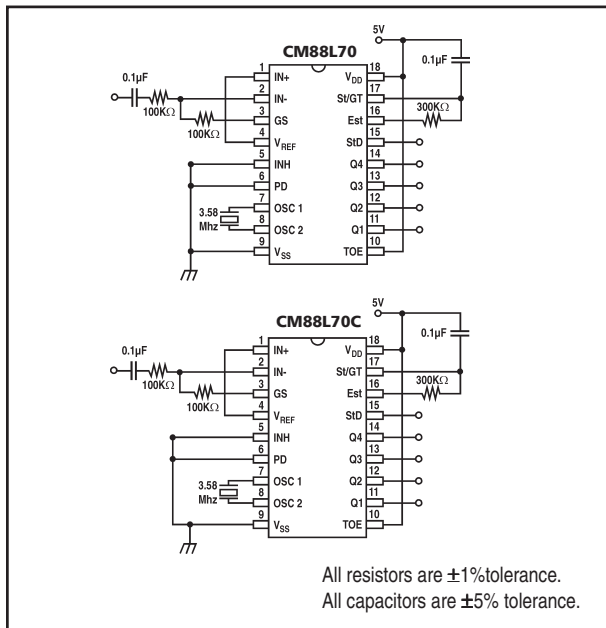

Figure 1. Single Ended Input Configuration
14. Referenced to Figure 1. Input DTMF tone level at -28 dBm.
The value of t_{DP} is a parameter of the device and t_{REC} is the minimum signal duration to be recognized by the receiver. A value for C of 0.1 uF is recommended for most applications, leaving R to be selected by the designer. For example, a suitable value of R for a t_{REC} of 40 milliseconds would be 300K. A typical circuit using this steering configuration is shown in Figure 1. The timing requirements for most telecommunication applications are satisfied with this circuit. Different steering arrangements may be used to select independently the guardtimes for tone-present (t_{GTP}) and tone absent (t_{GTA}). This may be necessary to meet system specifications which place both accept and reject limits on both tone duration and interdigit pause.
In a single-ended configuration, the input pins are connected as shown in Figure 1, with the op-amp connected for unity gain and VREF biasing the input at 1/2 V_{DD}. Figure 6 shows the differential configuration, which permits the adjustment of gain with the feedback resistor R5.